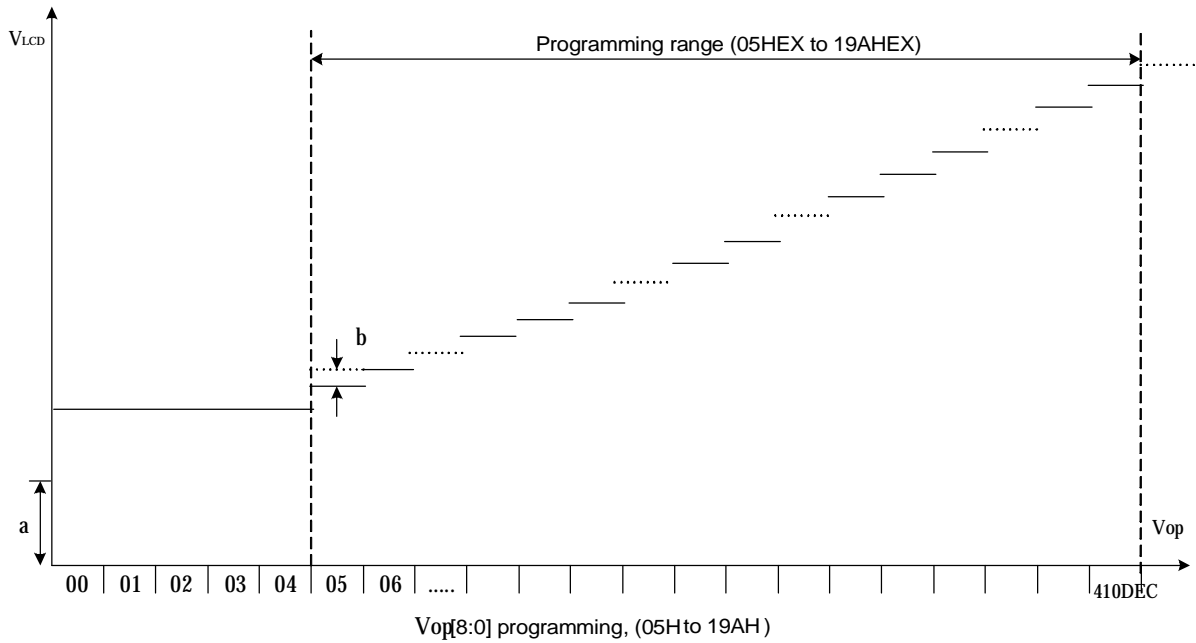

Fig. 7.10.2 VLCD programming range
The VOP[8:0] value must be in the V_{LCD} programming range as given in Fig.7.10.2. Evaluating equation (1), values outside the programming range indicated in Fig.7.10.2 may result. Calculated values below VOP[8:0]=4 will be mapped to VOP[8:0]=4, resulting VOP values higher than VOP[8:0]=410 will be mapped to VOP[8:0]=410.